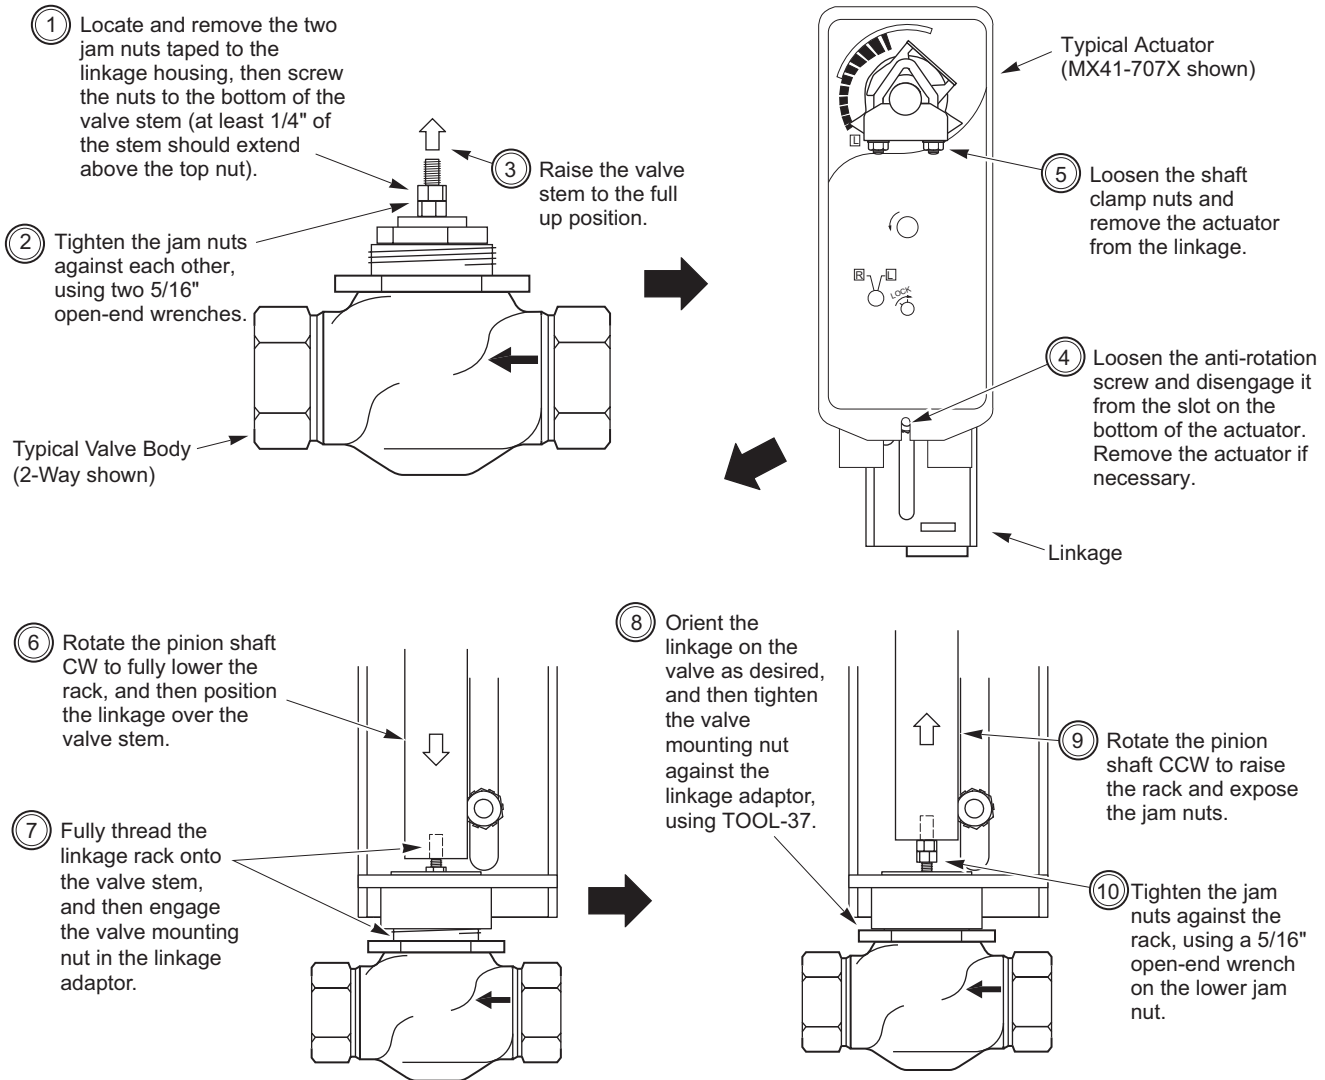

Figure-1 Assembling Linkage to Valve.
1. Assemble the linkage to the valve, according to Figure-1.